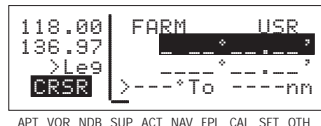

Figure 5-25
5. Press (**ENT**). The display will change to a format like figure 5-25.